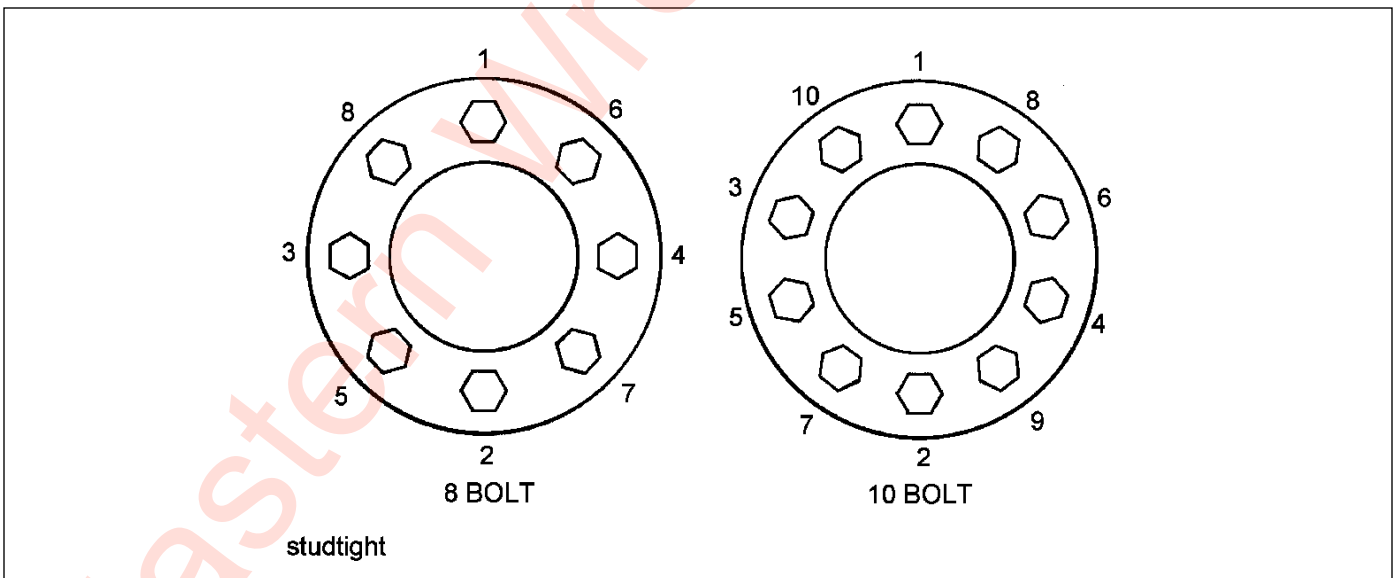

Figure 4-17: Stud Tightening Sequence
3. Install the inner capnuts on the studs and tighten to fifty foot-pounds using the sequence illustrated in **Figure 4-17**. Make certain that the left-handed threads are installed on the driver side of the vehicle and the right-handed threads are installed on the curbside of the vehicle.
4. Tighten the inner capnuts to full torque of 450 to 500 foot-pounds using the sequence shown in **Figure 4-17**.
6. Install the outer capnuts and tighten to 50 foot-pounds using the sequence in **Figure 4-17**. Then tighten to full torque of 450 to 500 foot-pounds using the same sequence.